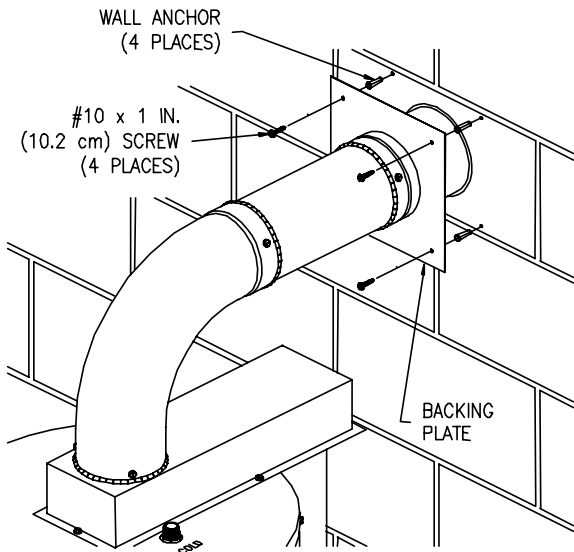

Figure 19
10. Mark the mounting screw hole locations for the backing plate. Rotate the backing plate in order to gain access to the markings. With a 3/16 (4.75 mm) inch diameter drill bit (not supplied), drill holes for the supplied wall anchors. Install the wall anchors and secure the backing plate to the wall with four (4) #10 x 1 inch screws (supplied). (See Figure 19). Note: Certain construction of walls may require the use of a different type of anchoring means than supplied.